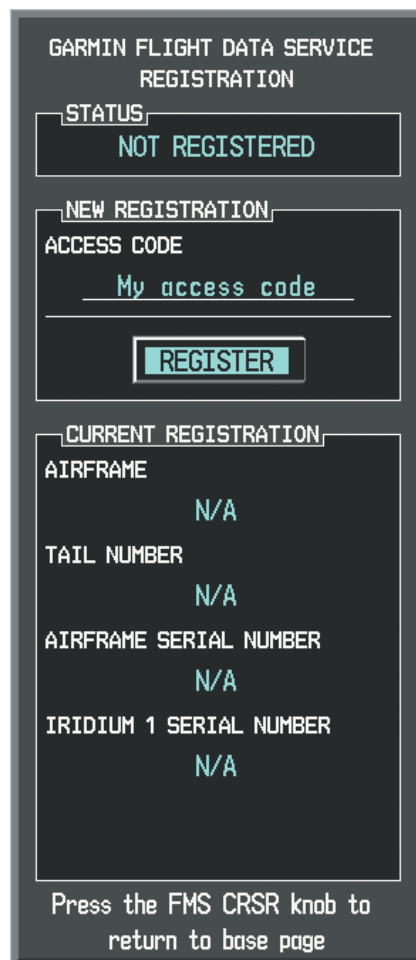

Figure 6-55 Enter Access Code
- 6) Press the **ENT** Key. The Garmin Flight Data Service Registration window is displayed as shown in Figure 6-55.
- 8) Press the **ENT** Key. 'REGISTER' will now be highlighted as in Figure 6-55.